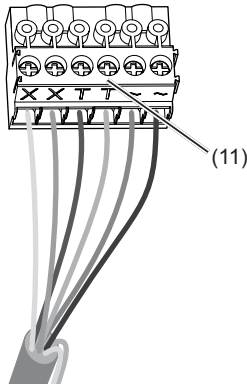

Figure 8: wired connection terminal block
- Pull off connection terminal block (11) from the video insert.
- Connect the 2-wire bus cable to the terminals **XX** of the connection terminal block (Figure 8).
- Connect door release to the terminals **TT** of the connection terminal block (figure 8 and 9) if required.
- For call push-button backlighting and camera heating connect 12 V~ lead from the power transformer to the terminals **~** of the connection terminal block (Figure 8).